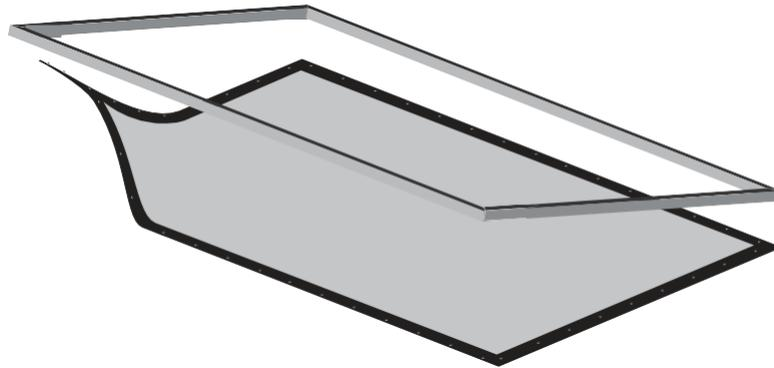

Figure 16: Attaching Top Corner Snaps
5. Starting with the snaps on the top corners and then horizontally along the top while lifting the frame with one hand, snap the screen into the frame. Gently allow the screen to stretch onto the snaps. Do not jerk, wrinkle, or crease the screen material, as it can be damaged (see Figure 16).